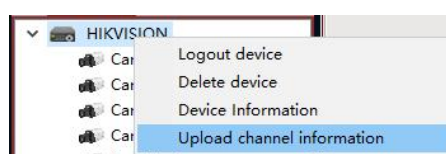

Figure 3.30
- Preview: after the device is successfully added, as shown in figure 3.29 to the left, then directly drag the video recorder under the device into the screen channel to preview the current video screen. (if it is indicated that the channel cannot be added, then right click on the device name and the menu as shown in figure 3.30 will appear. After successfully uploading channel information, drag it)
- Delete device: as shown in figure 3.30, click the "Delete device" button.